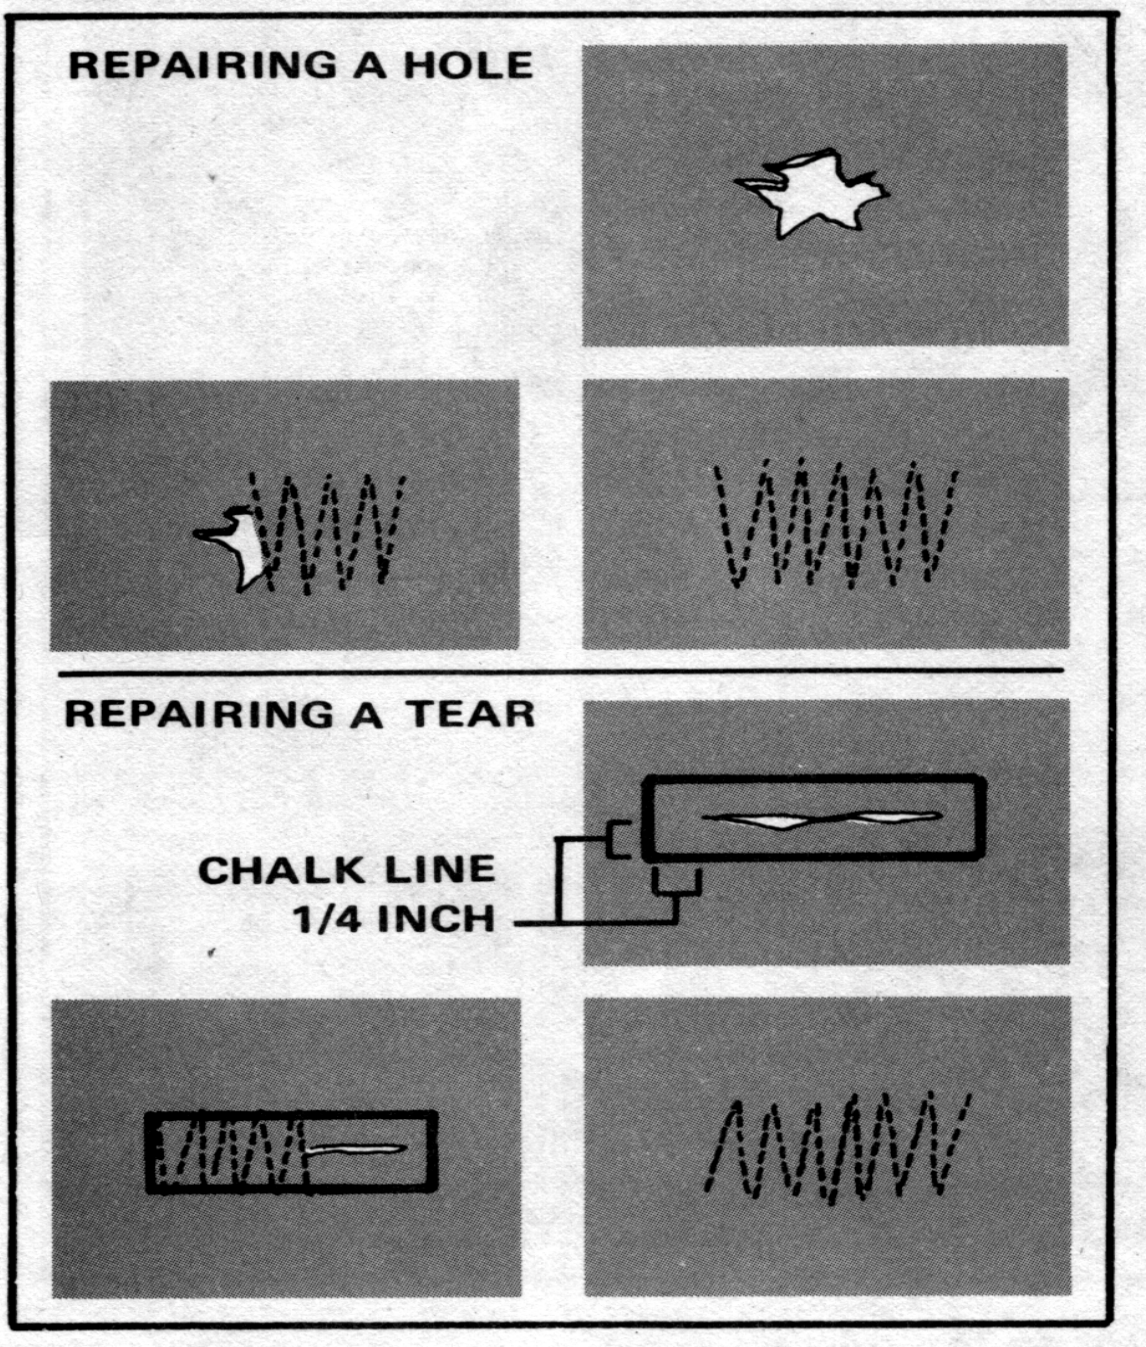

Figure 4-3. Zigzag darn
c. Zigzag Darn. The zigzag darn (Figure 4-3) is used to repair holes that are less than 1/2 inch across. It is also used to repair slits and straight tears where no fabric is missing. To make a zigzag darn-
(1) Turn the cloth faceup. To fix a hole, first flatten out the edges around the hole. To fix a tear, first draw a rectangular box around the tear 1/4 inch away from the tear on all sides with tailor's clay chalk.